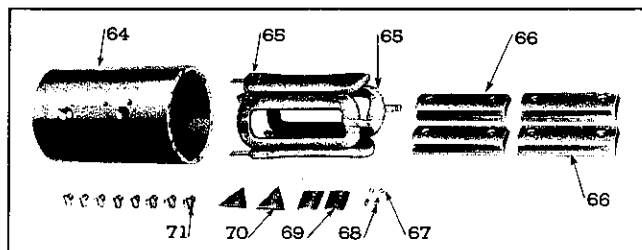

Fig. 19—Field Frame Details and Relative Location of Parts.
1. Unscrew two field coil ground screws (68) (See Fig. 19) and remove two lockwashers (67). Using screwbit and brace unscrew eight pole shoe screws (71). The four pole shoes (66), two field coil assemblies (65), two triangular insulation strips (70), and two square insulation strips (69) may now be lifted out of frame (64).